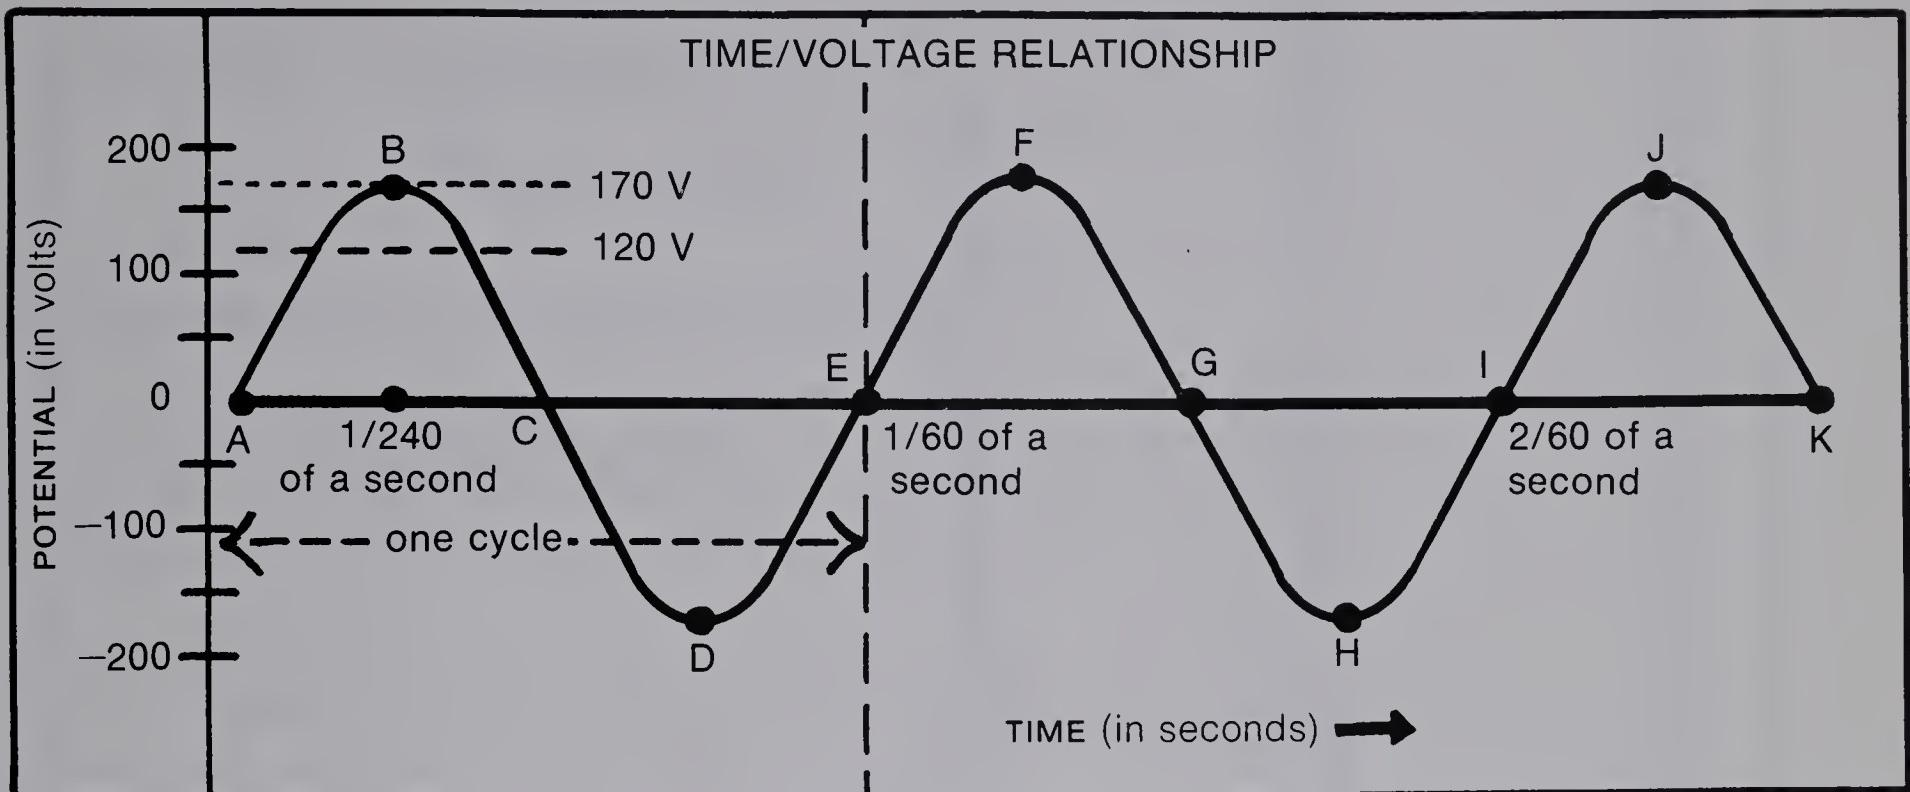

Figure 12-2
Consider what is happening at the wall socket. One of its terminals is grounded and remains steady at ground potential, or zero volts. The potential at the other terminal is varying, as shown in Figure 12-2. If you're not sure you know how to interpret this graph, read *Resource Unit 2*.
- 12-8. In Figure 12-2, how many cycles are completed in one second?
Figure 12-2 shows that the so-called 120-volts AC potential is actually changing constantly. A steady DC potential of 120 volts will cause a light bulb to burn just as bright. It turns out that the effective value of either AC potential or AC current is about 7/10 of its maximum value. Thus, the potential shown in Figure 12-2 has a maximum positive value of 170 volts and a maximum negative value of 170 volts. Its effective value—120 volts AC in this case—is always positive and can be figured from either the maximum positive or the maximum negative values.